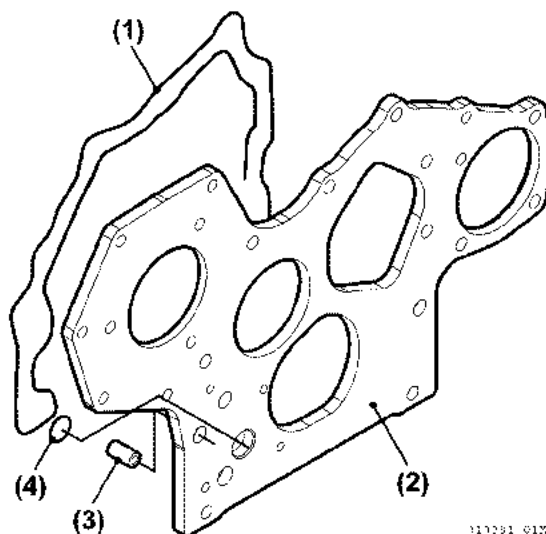

Figure 5-51
45. Remove the gear case from the cylinder block (Figure 5-51).
46. Remove the O-rings from the lubricating oil passage (Figure 5-51).